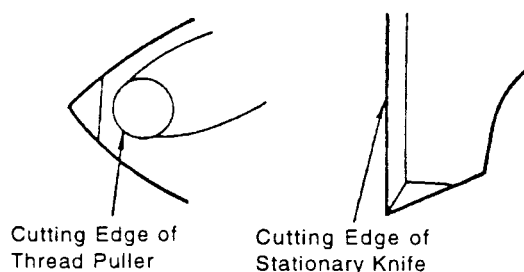

Fig. 42
8. The bobbin and needle threads are severed when the cutting edge of the thread puller closes in against the cutting edge of the stationary knife. (Figs. 42 and 43)